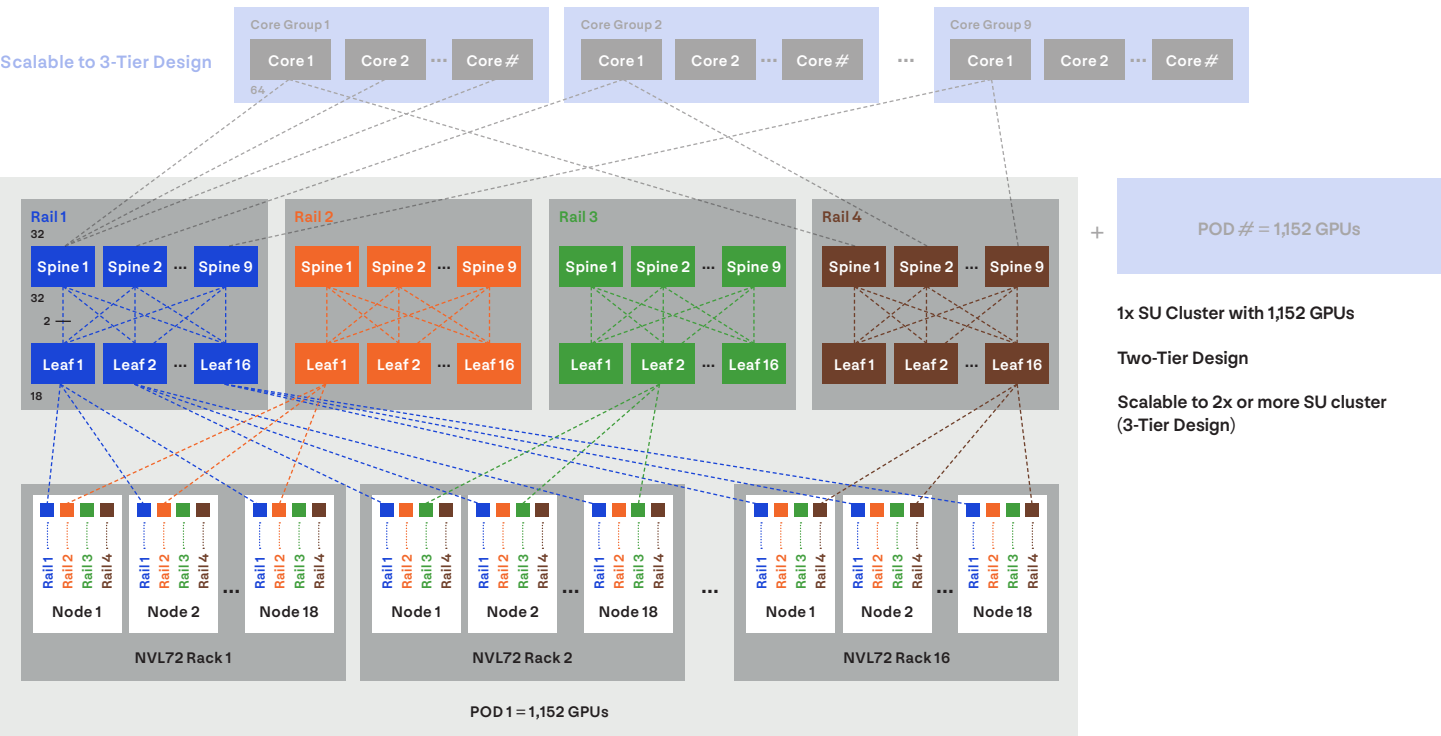

Figure 24. Compute Fabric for 1 SU (Scalable Version) Cluster.
- 2. Scalable Cluster:** In this configuration (Figure 24), a 1 SU consists of 64 Leaf Switches and 36 Spine Switches, with the ability to expand to 2 or more SUs by incorporating a Core Switch layer, transitioning to a Three-Tier design:
In a Scalable Cluster, each Leaf Switch receives 18 MPO connections from the servers, while each Spine Switch receives two MPO connections from each Leaf within the same Rail, resulting in a total of 32 MPO connections per Spine. Each Spine then forwards a certain number of connections to the Core Switches, depending on the size of the Cluster, as illustrated in Figure 24.